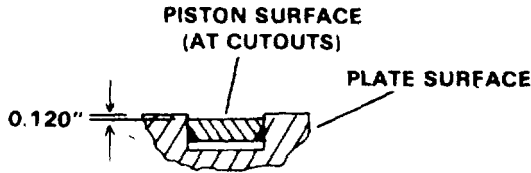

Figure 9C-3. Piston Installation
1. Lubricate the piston, O-rings, back-up rings and the cylinder of plate (19) with fluid from the propeller brake system.
2. Install new back-up rings (15 and 17) and O-rings (16 and 18) on piston (14).
3. Visually align the center of the cutouts in piston (14) with pin (09) holes in plate (19). Using a shop press, install the piston into the plate. The depth of the piston installation into the plate is critical, do not exceed 0.120 inch for piston surface below plate (19) surface (see Figure 9C-3).
INSTALLATION. To install the brake assembly, proceed as follows (see Figure 9C-1):